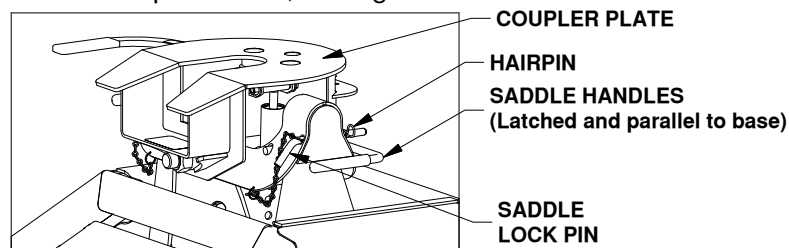

FIGURE E1: Coupler installed on base.
1. Lubricate the polyurethane bushings on top of the pivot arms with high grade lithium grease (available at your local hardware/automotive store). Place the coupler over the pivot arms. (The saddle handles should be parallel with the base in the latched position.) Place the saddle lock pins through the saddle, then insert the hairpins through the holes in the end of the saddle lock pins to secure the coupler to the pivot arms, see figure E1.